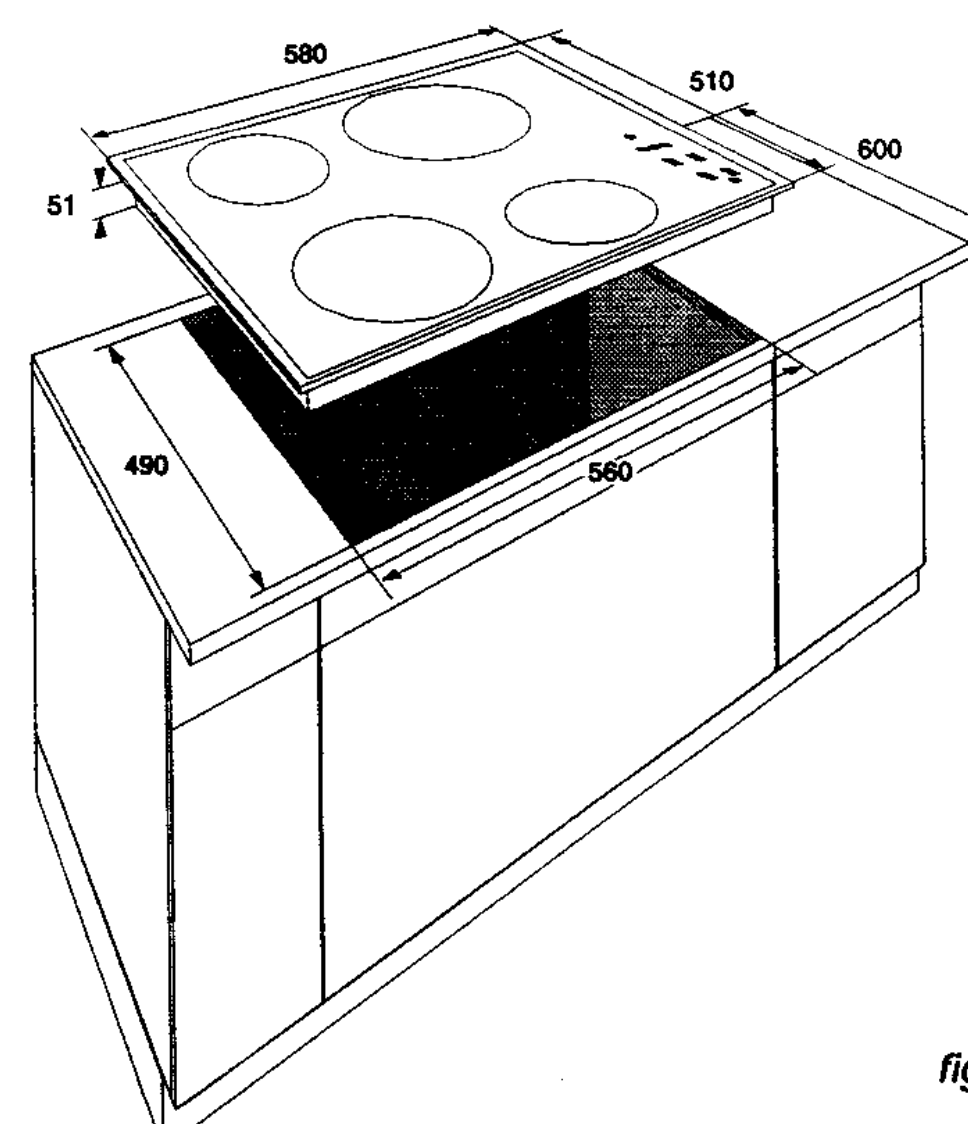

fig. 4
- Mark out the cut out (560 x 490 mm) on the worktop (see fig. 4).